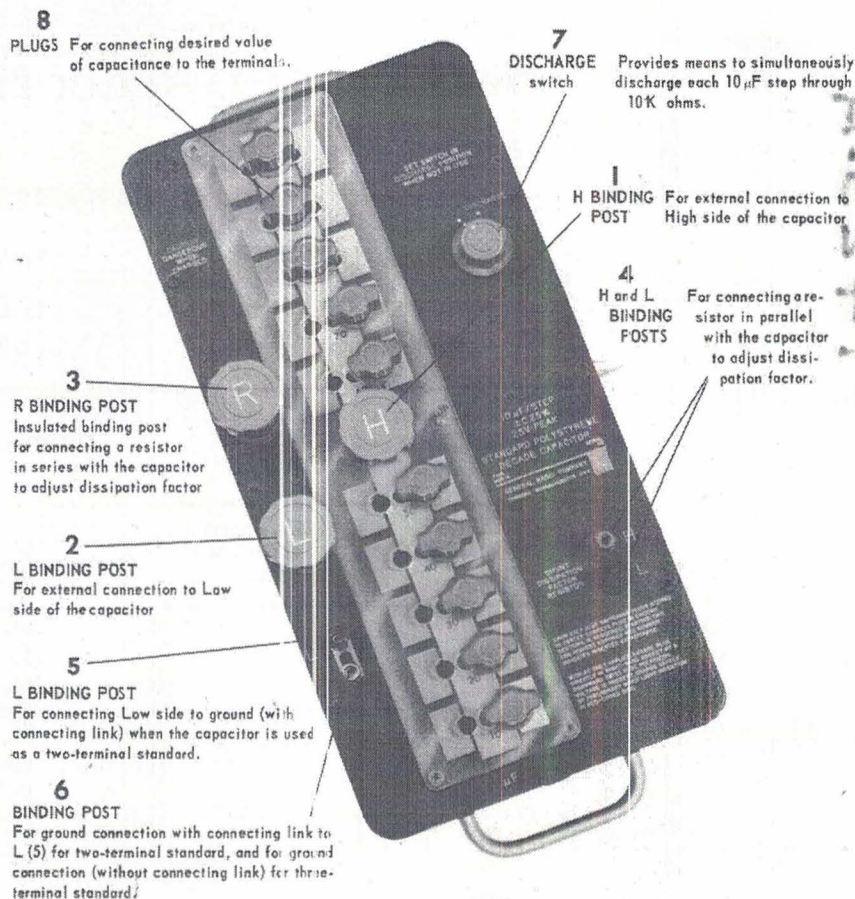

Figure 1-1. Location and function of controls and connectors on the Type 1425-A Decade Capacitor.
See Figures 1-1 and 3-1 for identification of controls and connectors referred to in the following paragraphs.
Before setting the desired capacitance, turn the discharge knob (7) to the left-hand (charge) position. Always plug in the decade steps sequentially, starting with the 10- μ F step at the bottom and proceeding upward until the correct value of capacitance is indicated. For example, the capacitor shown in Figure 1-1 is set at 70 μ F.